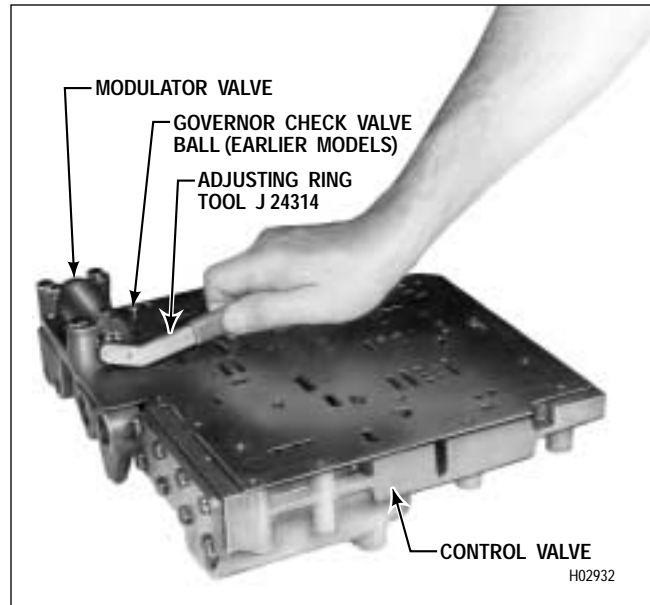

Figure 6-21. Adjusting Modulator Valve Ring
(18) Install three 1/4-20 x 1 3/4 inch bolts 3 to retain valve body 10 and separator plate 2. Tighten the bolts to 8-12 lb ft (11-16 N·m). The assembled valve body is shown in Figure 6-21.
(19) Install selector valve 53 (Foldout 11 into the assembled valve body and retain it with a rubber band, tape, or soft wire to prevent its dropping out during handling.
(20) Use special tool J 24314, recheck the positions of all adjusting rings (Figure 6-21) with the positions recorded before disassembly.
(21) For ease of handling, install valve body lifting tool J 29863 into the drilled boss in the center of the valve body. Put the assembled valve body into a plastic bag or other dirt-proof, lint-free wrapping until ready to install it.